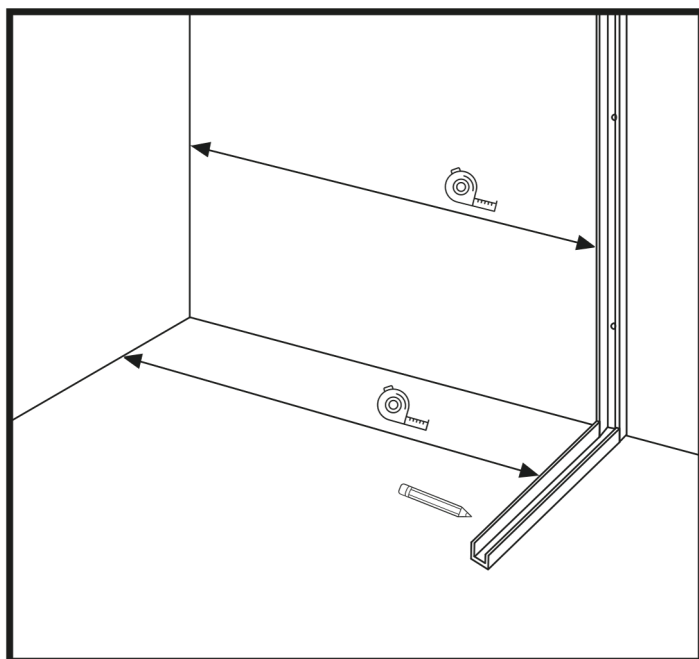

Figure 1
2. Choose the distance of the U-profile from the opposite wall according to your wishes, based on the designed location of your shower door. Measure the required distance from the corner of the wall and make a mark. (Figure 1)